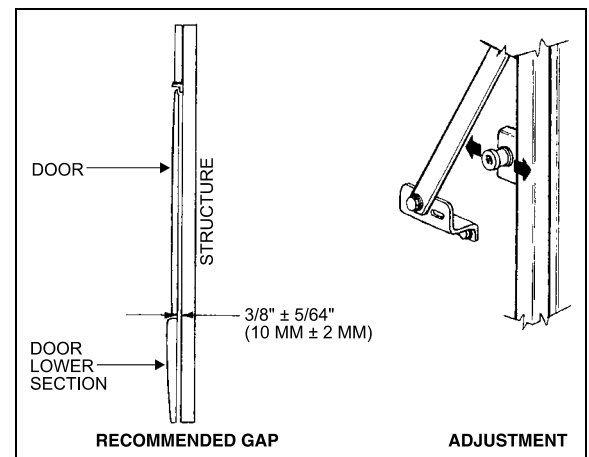

FIGURE 59: BAGGAGE COMPARTMENT DOOR 18070
7. With door shut, it should have a gap of  $3/8'' \pm 5/64''$  (10mm  $\pm$  2mm) between door panel lip (at level of upper edge of lower section) and structural post. If not, move pins horizontally until correct gap is obtained. Fully tighten the pins after adjustment is achieved (Fig. 59).